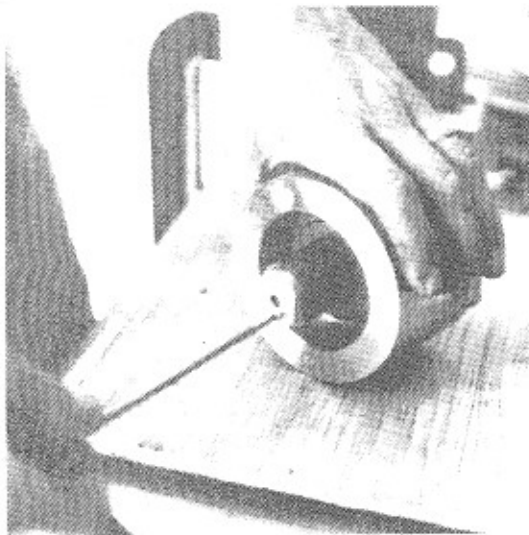

Figure 12
- I. By loosening the set screw (Part No. 8C-1) and removing the sleeve bolt (Part No. 8C) from the shaft (Part No. 8A), the sleeve (Part No. 9), the thrust rings (Part No. 29), and inner magnet (Part No. 20A) may now be easily removed [Fig. 12].